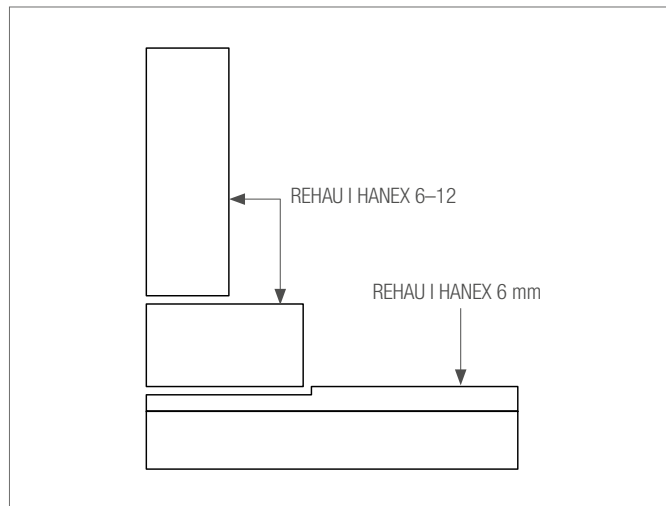

Abb. 6-24 Wall connection with fillet
3. Layer on the edges of the stainless steel frame. The heat protection tape also needs to cover the screw connection, which fix the stainless steel frame to the cut-out edges (Abb. 6-24)